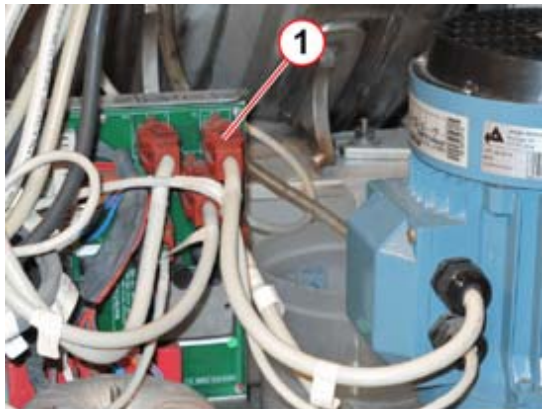

Fig. 24: Motor cable plug
- Remove the vertical motor cable plug X36 and X3 (1/Fig. 24 / p. 29).